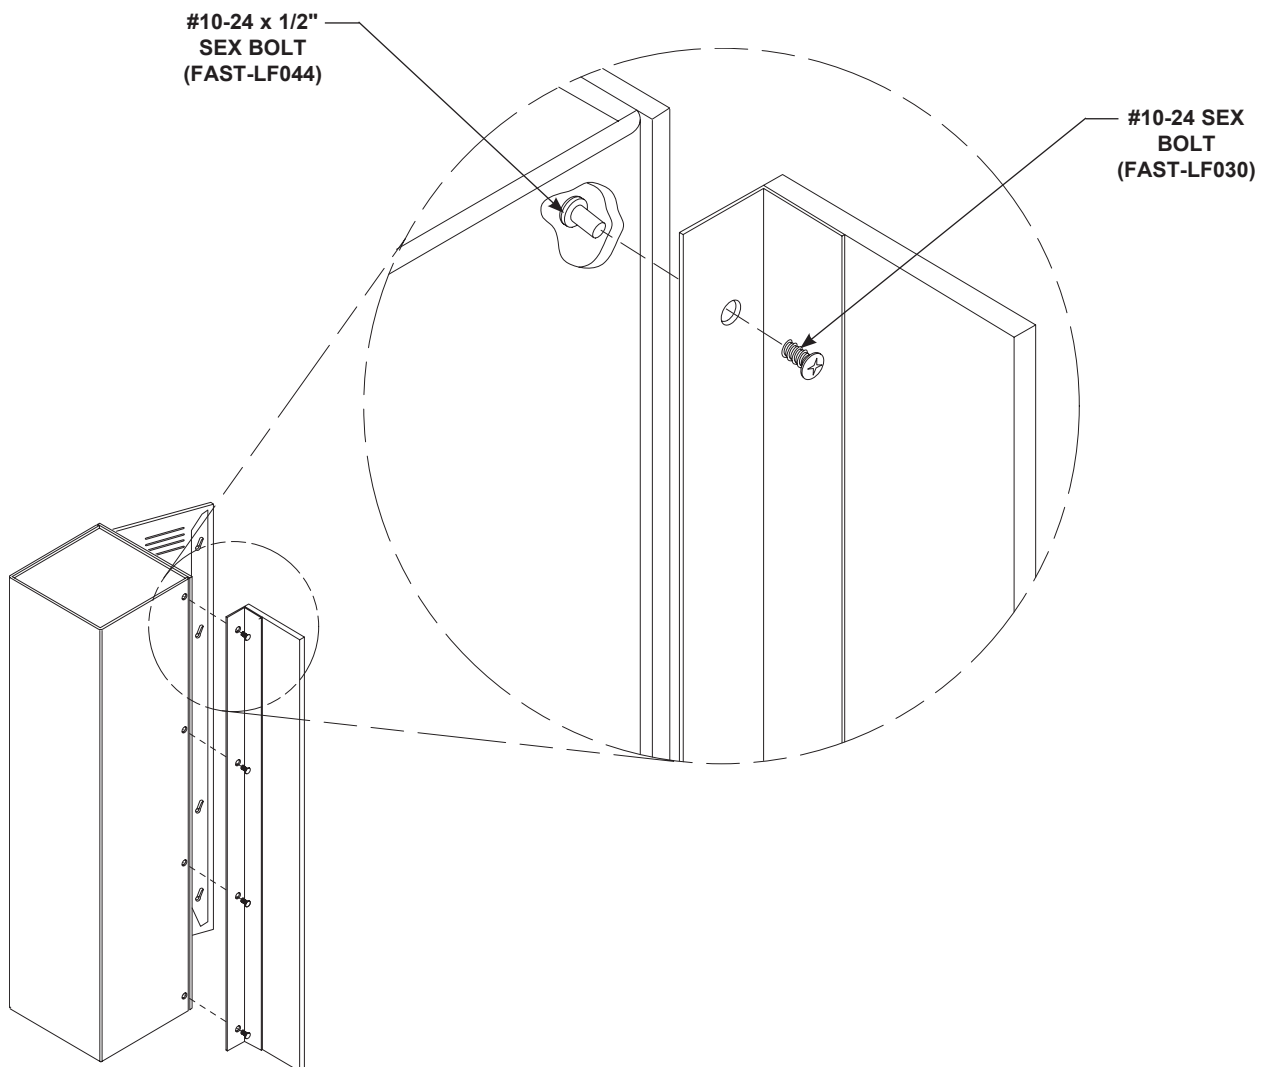

Figure 2
2. Using the holes in the filler as a template, drill four 9/32" dia. holes through the locker as shown in Figure 2.
3. Using the holes in the filler as a template, drill four 9/32" dia. holes through the locker (refer to Figure 2 on page 5).